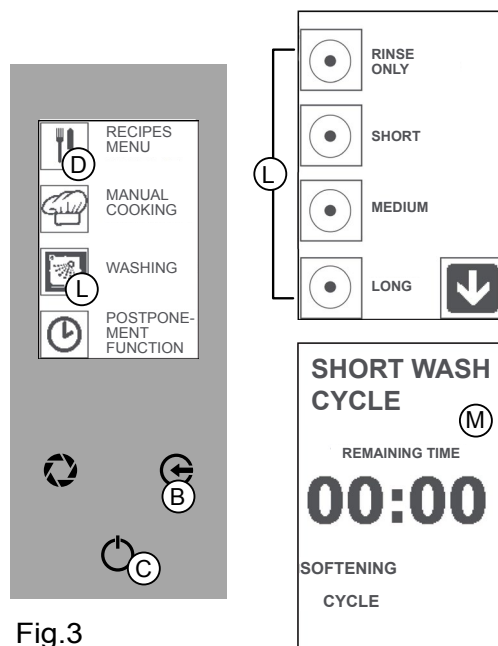

Fig.3
2. Press the corresponding icon to select the desired washing cycle (Fig 3/L).
Press the "ENTER" key (Fig 3/C) to start washing.
The features of the selected washing cycle with the countdown appear on the display (Fig 3/M).
Press the "ENTER" key (Fig 3/C).
Before adding the DETERGENT (Fig 3/M - SOFTENING)
Press the "ENTER" key (Fig 3/C) to resume washing (Fig 3/C).
Press the "ESC" key (Fig 3/B) several times to return to the Home Page.